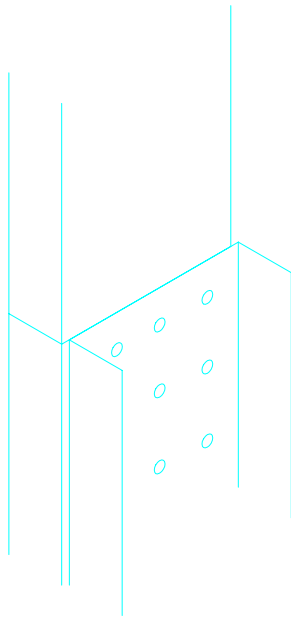

Figure 9.16.6
- 17) At the top of the bulkheads, drill through the nine attachment holes from the forward bulkhead to the aft bulkhead. Bulkheads are back to back at the top as in Figure 9.16.6.